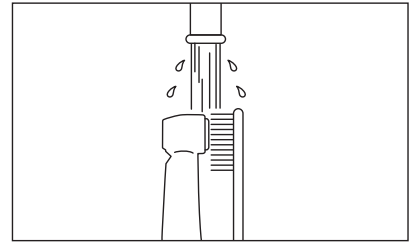

Fig. 9
- 1) Clean the exterior of the handpiece under running water using a soft (non-metallic) brush (Fig. 9, 10).